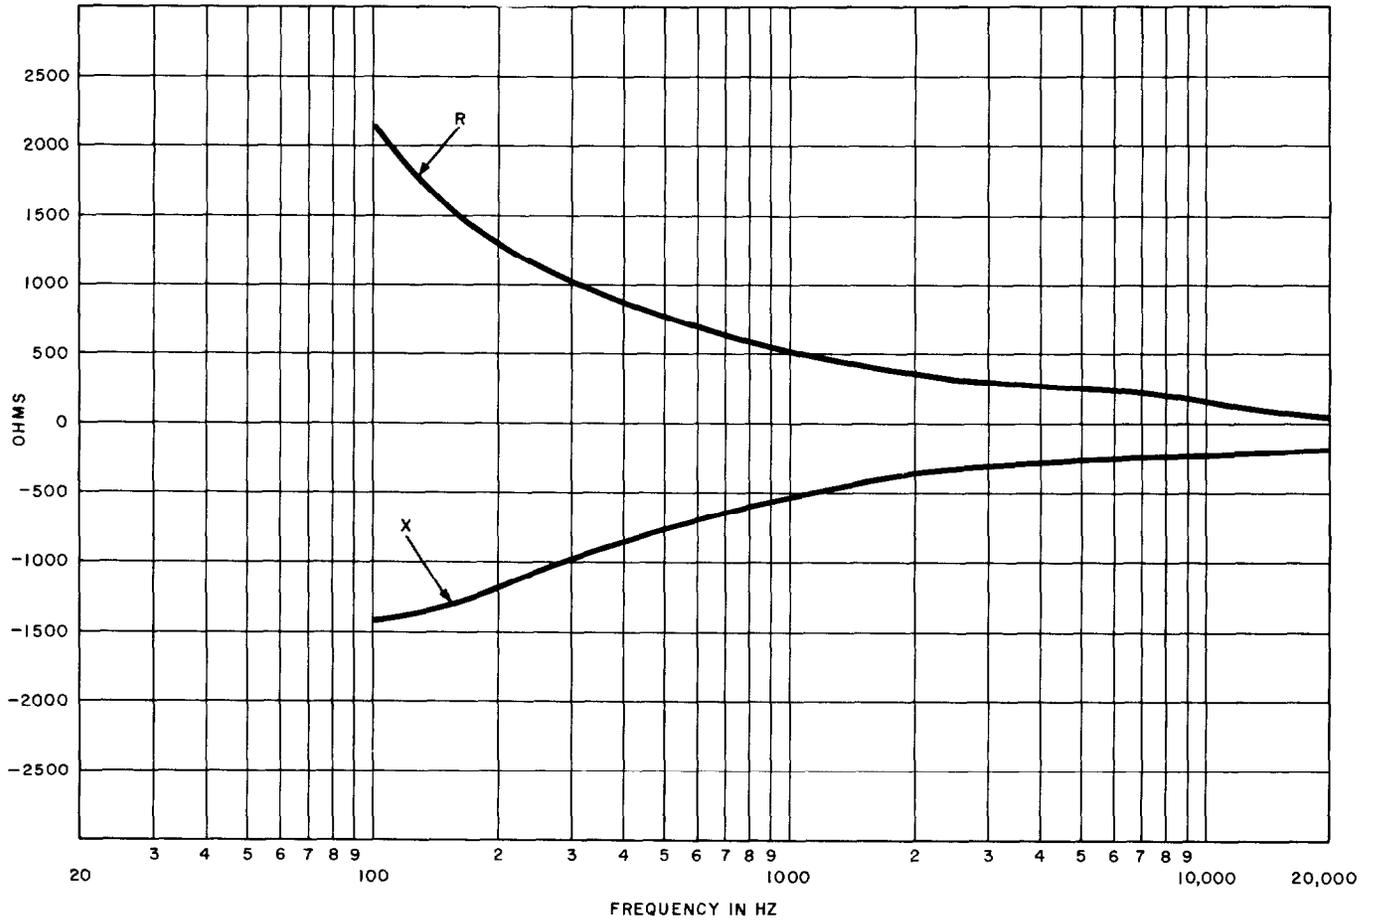

Fig. 3 — 4066F Network — Simulating Impedance of 24 CSM — NL Cable
3.03 Fig. 3 and 4 illustrate the impedance characteristics of the 4066F network for 24 CSM — NL cable and 24 DSM — NL cable, respectively.